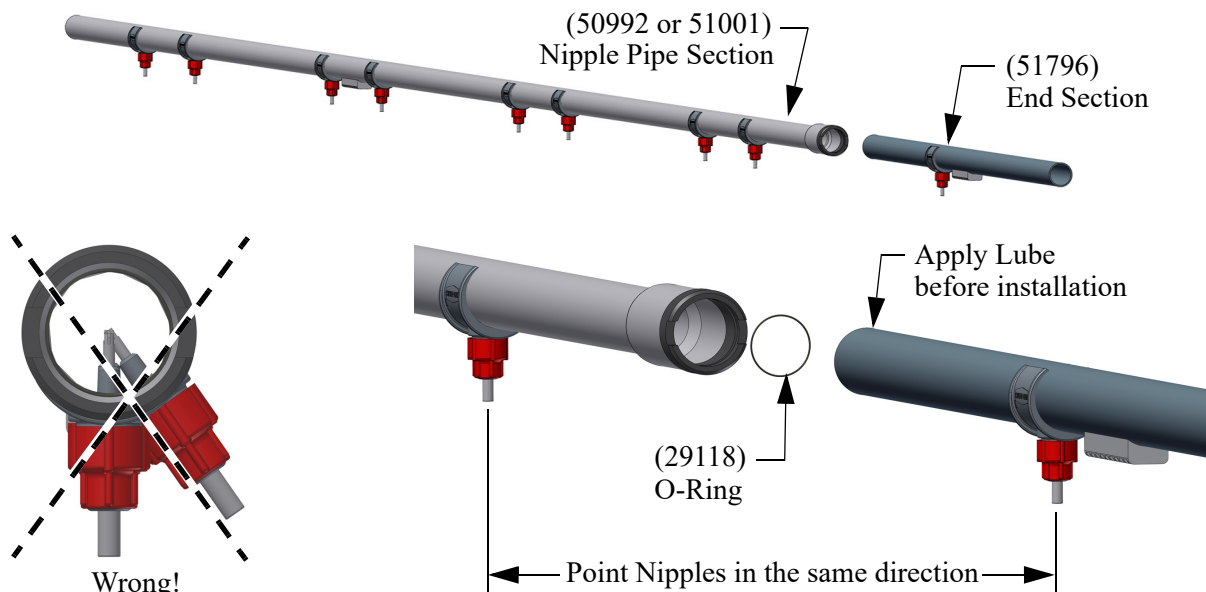

Figure 10. Water Pipe Assembly
1. Attach a short End section (51796) to a long section of Nipple Pipe. The Nipples all must point the same direction. Install o-rings, part no. 29118, into bell end of the nipple pipes and lubricate before putting the pipes together. (See Figure 10.)